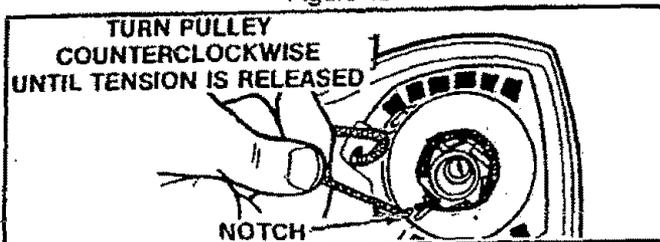

Figure 41
6. If the starter rope is not broken, release the spring tension by pulling about 10 inches of rope from the pulley and catch the rope in the notch as shown. Figure 41.
15. Wrap rope counterclockwise ↶ around pulley ratchet and tuck loose end back under rope leaving a 3/8 to 3/4 inch tail laying in the rope groove. Figures 41 & 42.